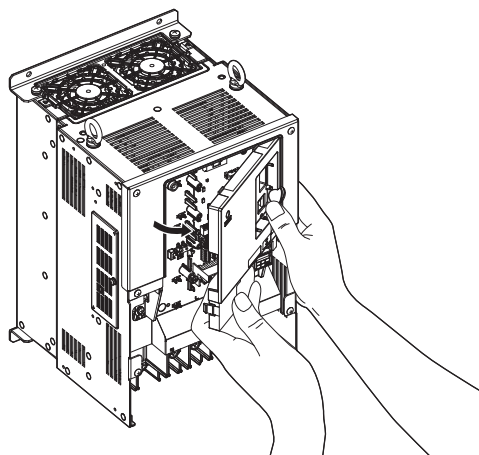

Figure 3.14 Remove the Front Cover (Models CIMR-LU2A0085 to 2A0415 and 4A0045 to 4A0260)
4. Unhook the left side of the front cover then swing the left side towards you as shown in Figure 3.14 until the cover comes off.